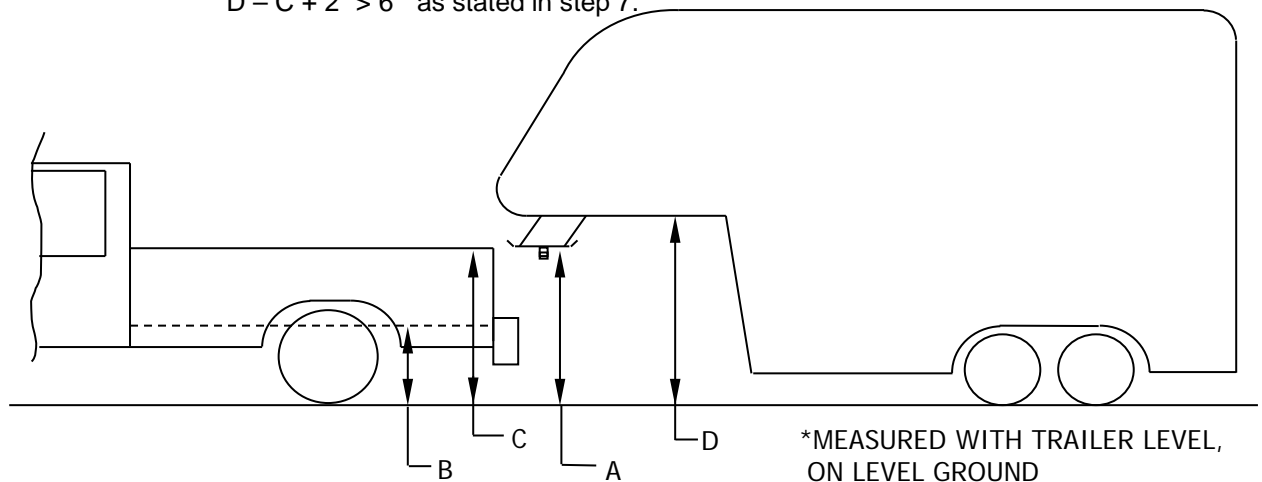

Figure 21
- With trailer leveled and on level ground measure from the ground to the king pin box, "A" in Figure 21.
- Measure from the height of the inside of the truck bed, "B" in Figure 21. Dimensions "C" and "D" in Figure 21 can be used to determine the amount of clearance over the side rails, as mentioned in step 7.